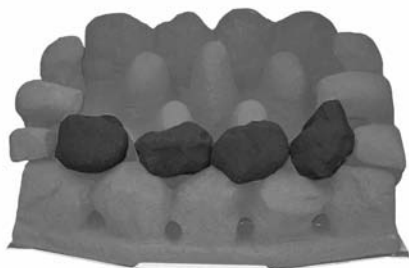

Fig. 20
5. Pick out the smallest two coals and lay to one side, lay the first row of four loose coals on top of the front coal. Ensure the back of the coals are resting on the coal bed and there are even gaps all round (Fig. 20).